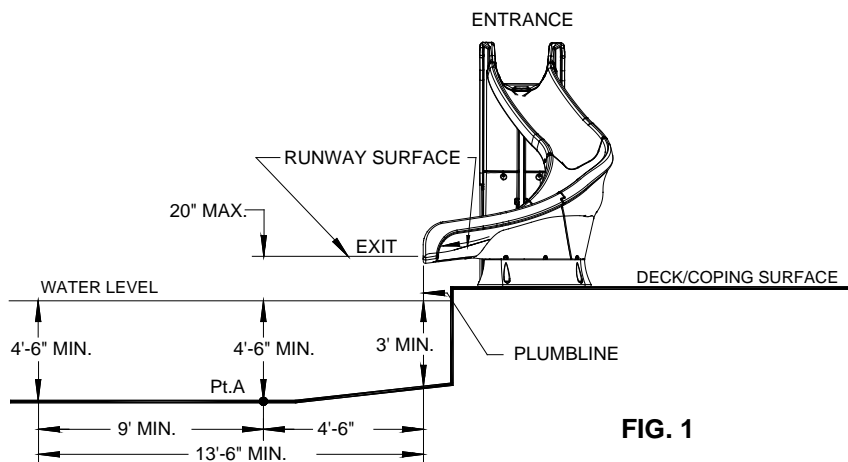

FIG. 1
- A. The slide exit runway surface shall not exceed twenty inches (20") above the water surface as shown in **FIG.1**.
- C. The minimum depth of water below the exit lip of the slide shall be three feet (3') and increases to four feet six inches (4'-6") at Pt. A, which is a distance of four feet six inches (4'-6") from the exit lip of the slide as shown in **FIG.1**.
- D. A minimum depth of four feet six inches (4'-6") shall be maintained at a distance of nine feet (9') along the extended centerline of the slide from Pt. A. as shown in **FIG.1**.